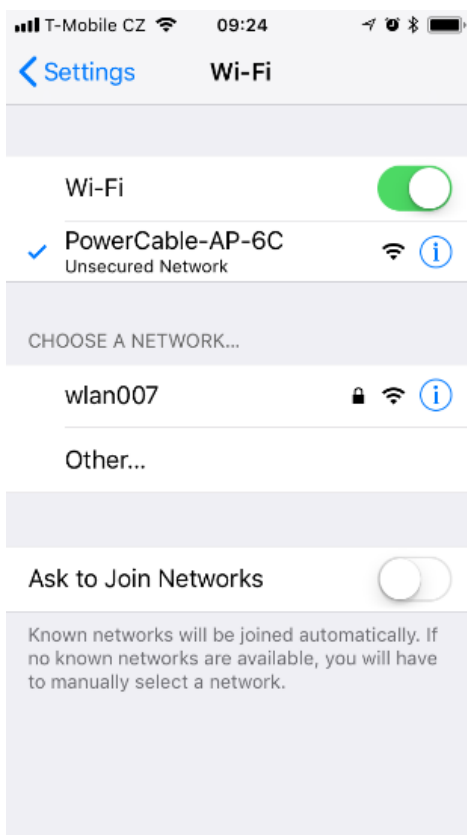

Figure 12 - Connecting to PowerCable AP
- On a computer, tablet or smartphone, display available WiFi networks and connect to the unsecured “PowerCable-AP-xx” network (Figure 12).